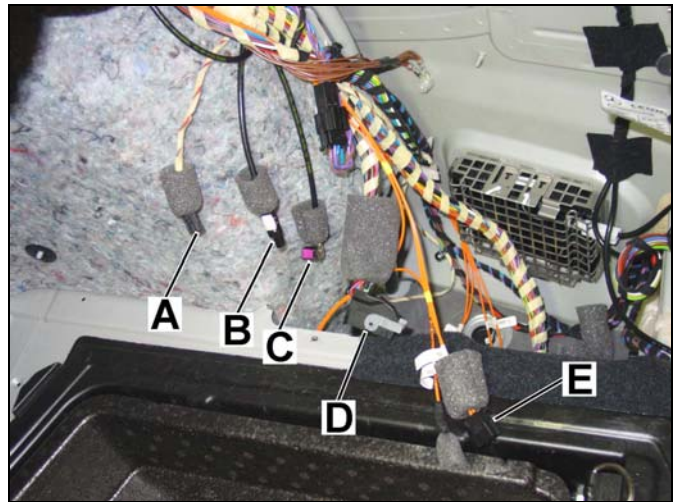

**Figure 3**
9. In the exposed right side well in the trunk, remove the amplifier/bracket assembly, if sound system equipped, by removing the 8-mm collar nut (A, Figure 3), 8-mm hex head bolt (B, Figure 3), and disconnecting the power supply connector and MOST connector from the amplifier underside.